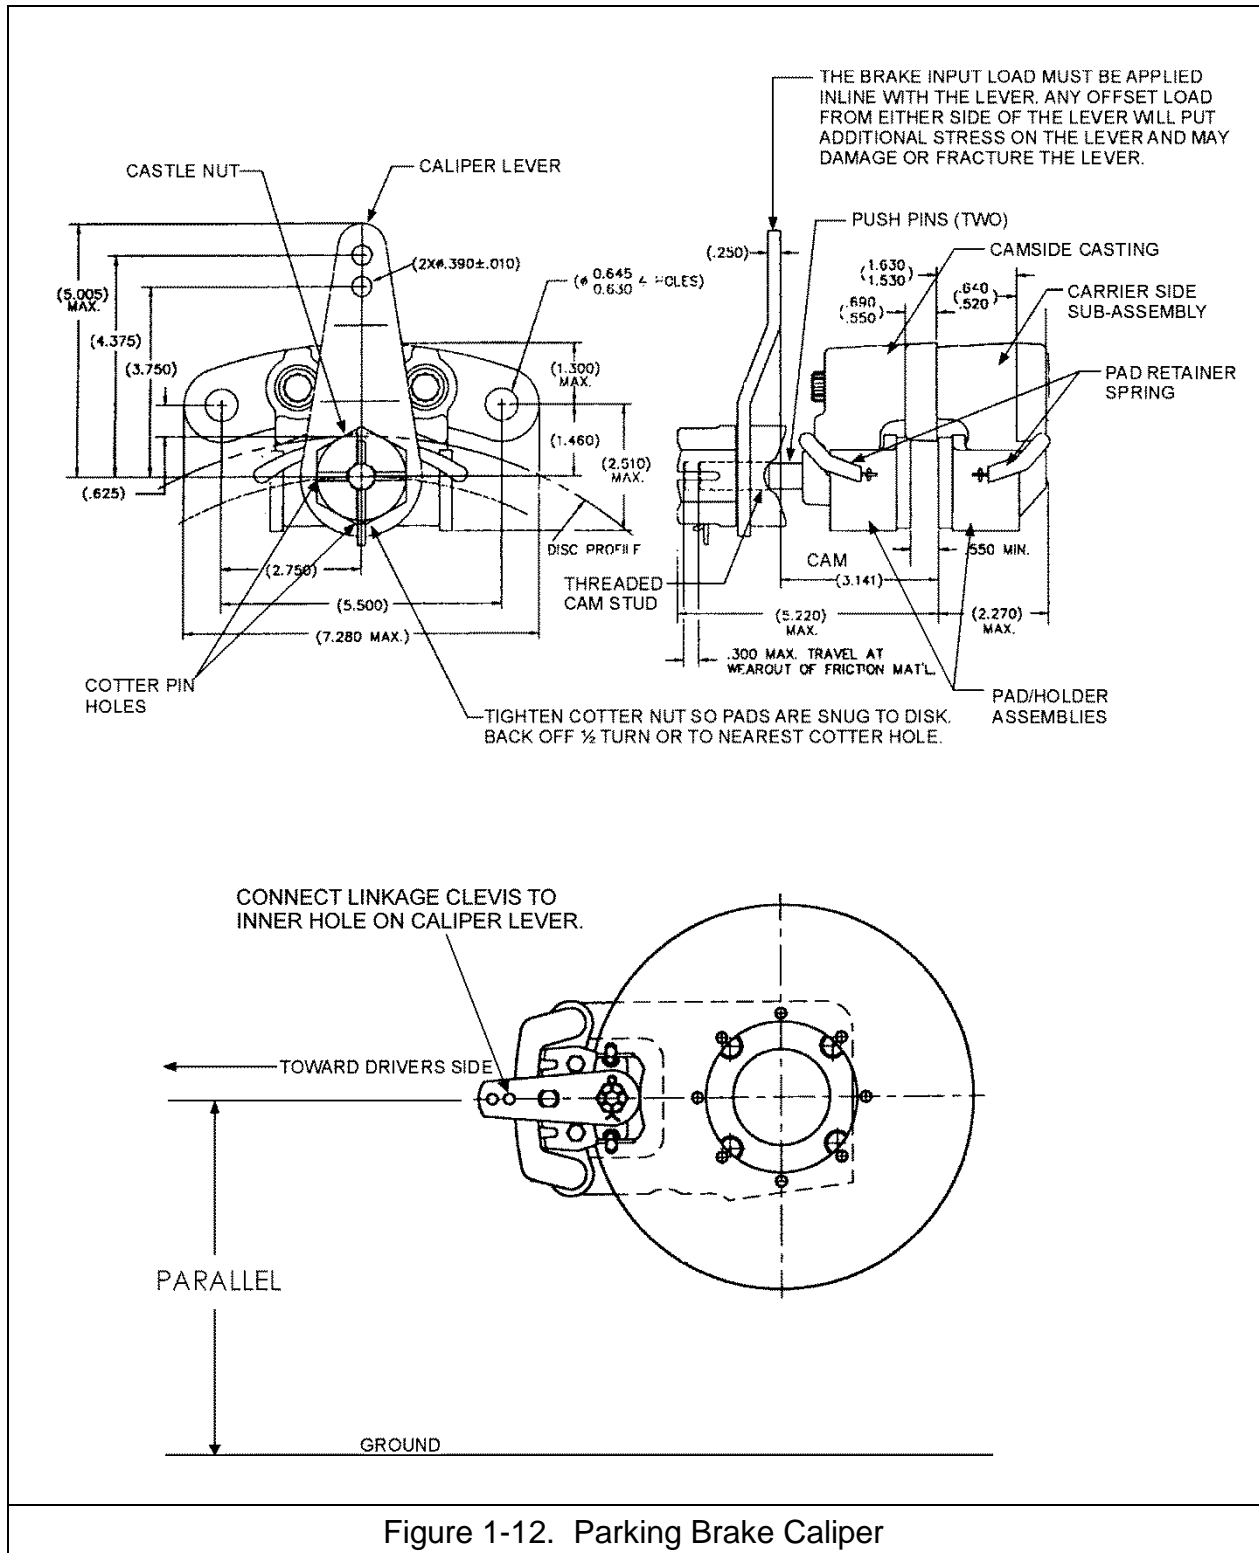
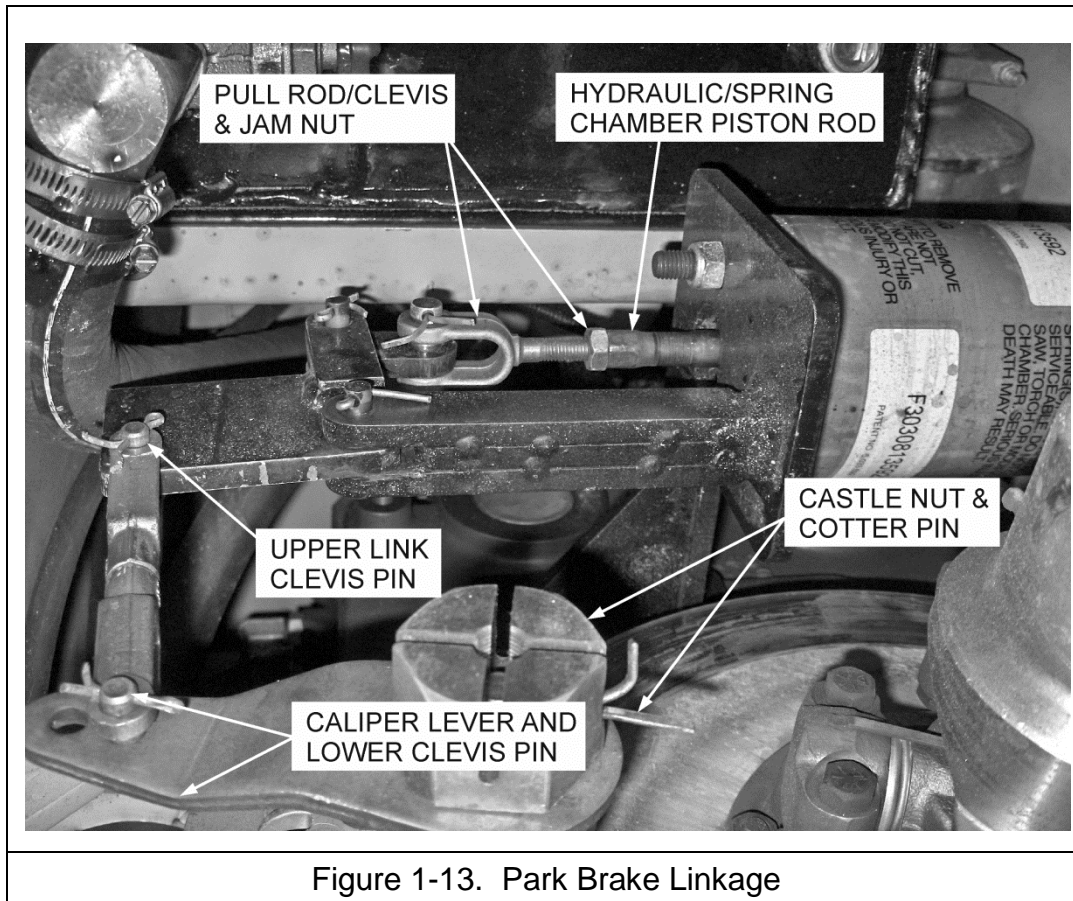

Figure 1-12. Parking Brake Caliper
Figure 1-13. Park Brake Linkage
See Figure 1-13 and Figure 1-12.
⚠WARNING The park brake linkage (see Figure 1-13) is in tension when the park brake is applied and could spring apart causing personal injury if unhooked before releasing the brake.
2. Loosen the jam nut on the pull rod/clevis and observe how much thread is exposed on the pull rod/clevis. This will aid in reconnecting the brake linkage later. See Figure 1-13. Turn CW on the hex end of the chamber piston rod to lengthen the linkage.
3. The caliper lever must also point to the 9:00 position or toward the driver. New calipers may be shipped with this lever located differently. If so, remove the cotter pin from the castle nut and remove the nut. Remove the lever from the cam spline and reassemble it so it points to 9:00. See Figure 1-12.
inner hole on the caliper lever as illustrated on Figure 1-13.